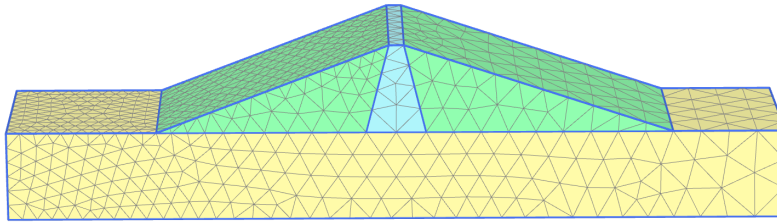

Figure 6.4 The resulting mesh
-  Click the *View mesh* button in the side toolbar to preview the mesh. The resulting mesh is displayed in Figure 6.4.